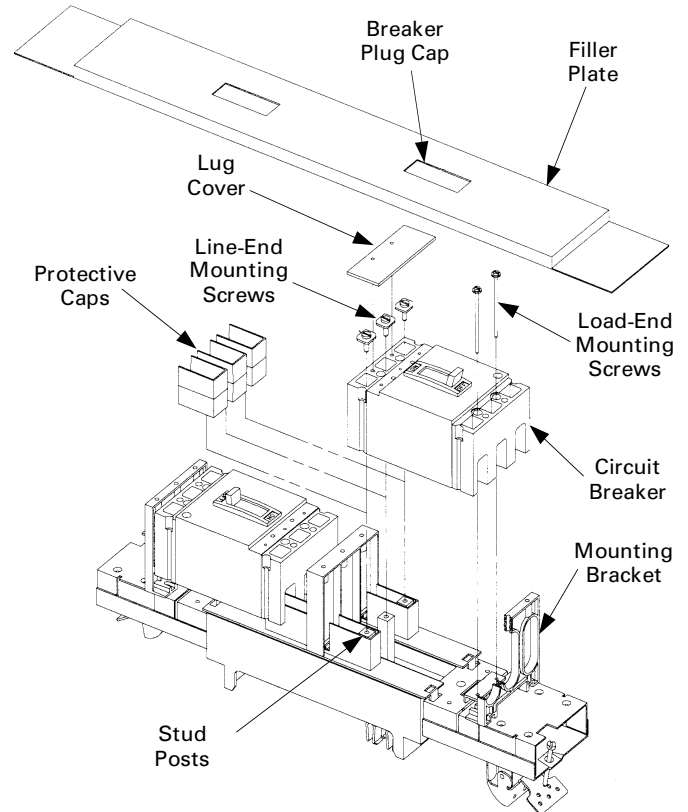

Figure 1. Typical circuit breaker module. (Your specific module configuration may not appear as shown.)
- 1. Prepare the module.** Remove the side trim and filler plate from the new circuit breaker position, as shown in Figure 1. Remove the protective caps or insulating tape from the tops of the line end posts and discard.